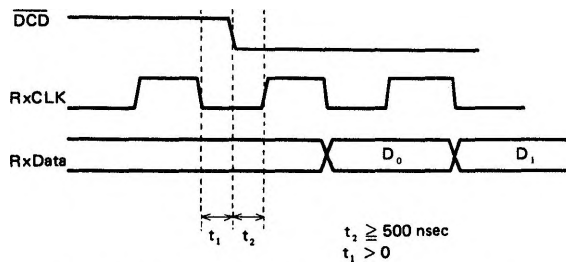

Figure 14 $\overline{\text{DCD}}$ Input Timing in External Sync Mode
- (1) $\overline{\text{DCD}}$ and RxCLK should meet the relation shown in Fig. 14.